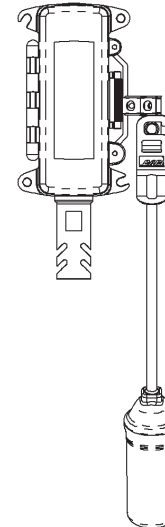

Fig. 34: Probe Clip Hanger used on an outside air sensor
- Outside air sensor measurement requires that the Blü-Test probe be placed next to the outside air sensor. This may require a ladder or extension pole. Hold the Blü-Test probe in place for 3 minutes or until the reading stabilizes. The Probe Clip Hanger accessory (BA/PCH-1) makes this easier by holding the probe for you (Fig 34).